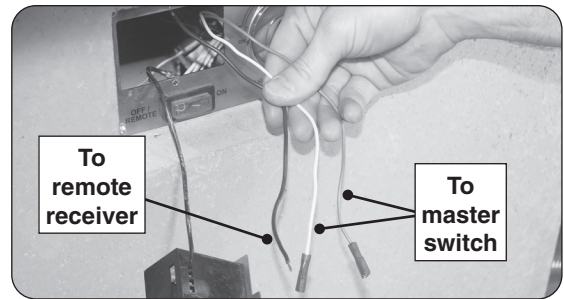
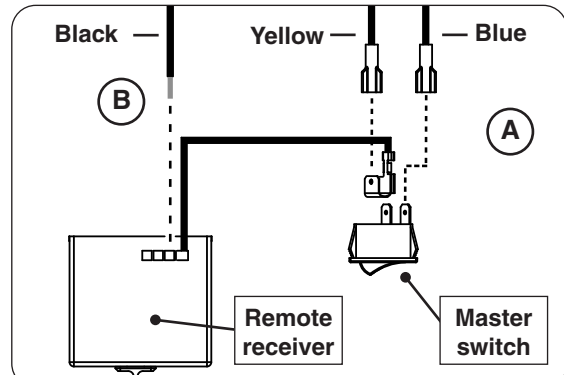

Fig. 28-1 Locate 3 exposed wires
Fig. 28-2 Reconnect receiver & switch wires
1. Locate the 3 exposed wires and connect to the remote receiver and master switch (see Fig. 28-1 and Fig. 28-2).